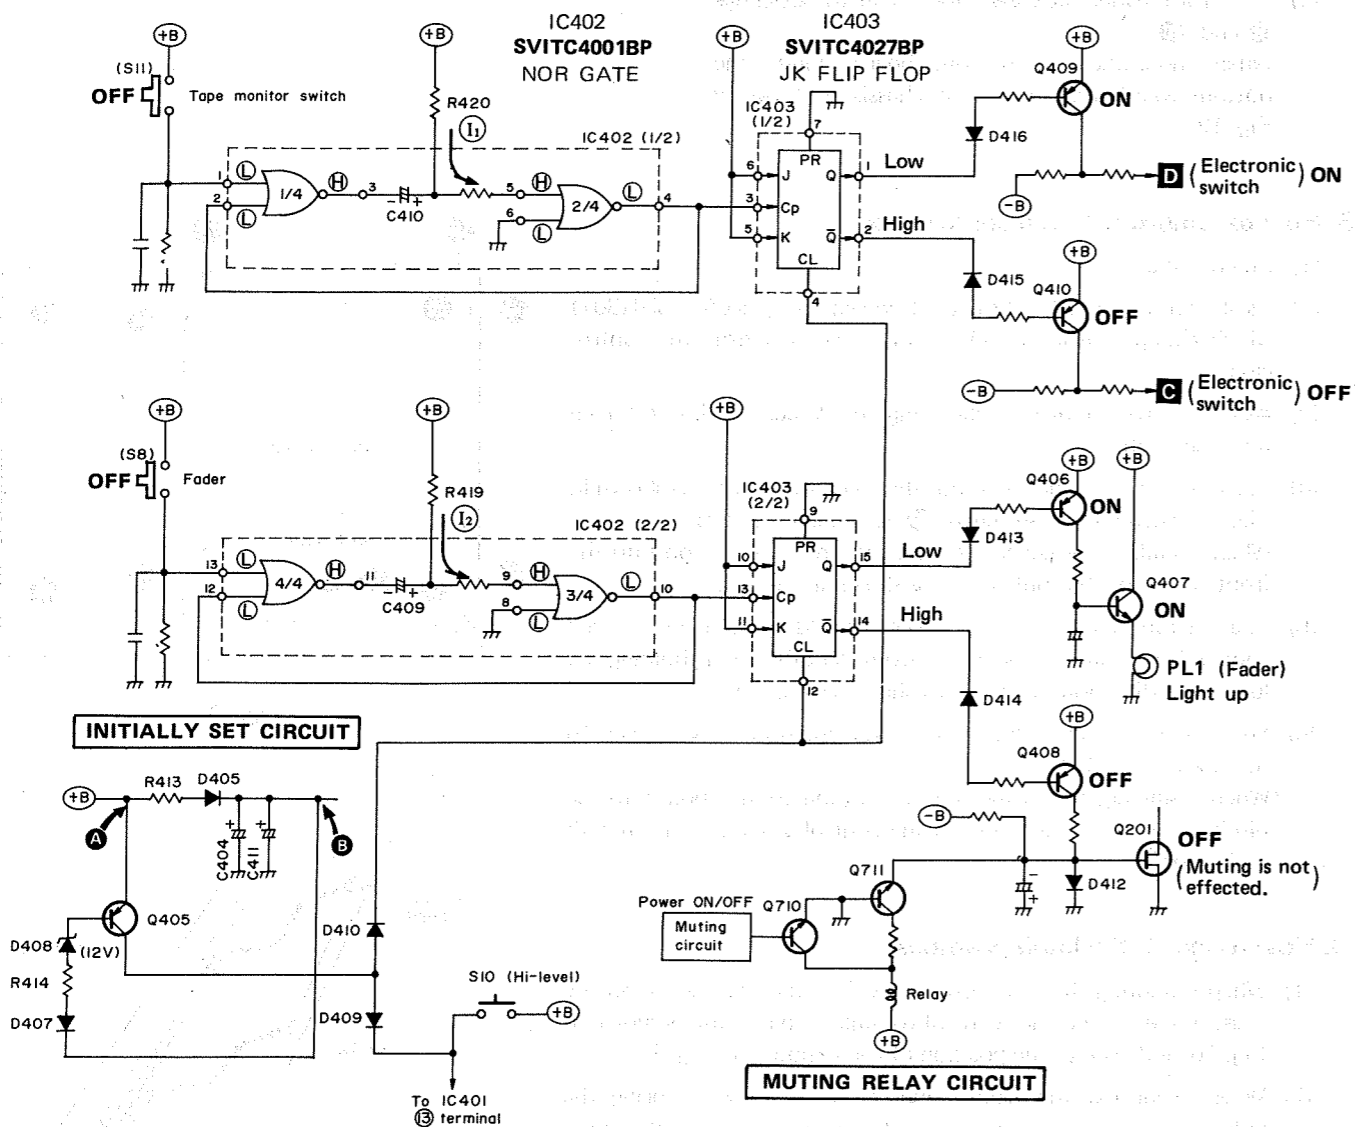

Fig. 4
- When neither "tape monitor" nor "fader" button is pressed, the circuit is as shown in Fig. 4 where **C** switch is OFF, **D** switch, ON, and FET for muting is not operating. (Since C409 and C410 are sufficiently charged, current **I**₁ and **I**₂ flow in the direction of the arrow.)
- Since the unit uses an electronic switch to change over the input, it is necessary to store the conditions attained just before turning off the power switch. The backup circuit consisting of D405, C404 and C411, shown in Fig. 4, is provided for this purpose. This circuit is able to maintain the condition attained just before turning off the power switch for 3 ~ 5 days. In the case of unattended recording of the Hi-level input of tuner or aux terminal, the Hi-level button is pushed before turning off the power switch. But if back-up power is exhausted as more than a week has passed, then the Hi-level circuit does not function even with the power switch turned ON. In that case, the "initially set circuit" serves to make the Hi-level circuit to function.
- When the power switch turns ON, the voltage immediately rises at point **A** of the "initially set circuit", while it takes time for the rise of voltage at point **B**. During that time, Q405 turns ON, causing the collector potential to increase. The voltage is applied to the Hi-level switch S10, making the circuit the same as shown in Fig. 2. On the other hand, the voltage is also applied to the IC403 clear terminal of the flipflop. When the clear terminal changes to "high", the output becomes "low" regardless of other input, thus making the circuit as shown in Fig. 4.